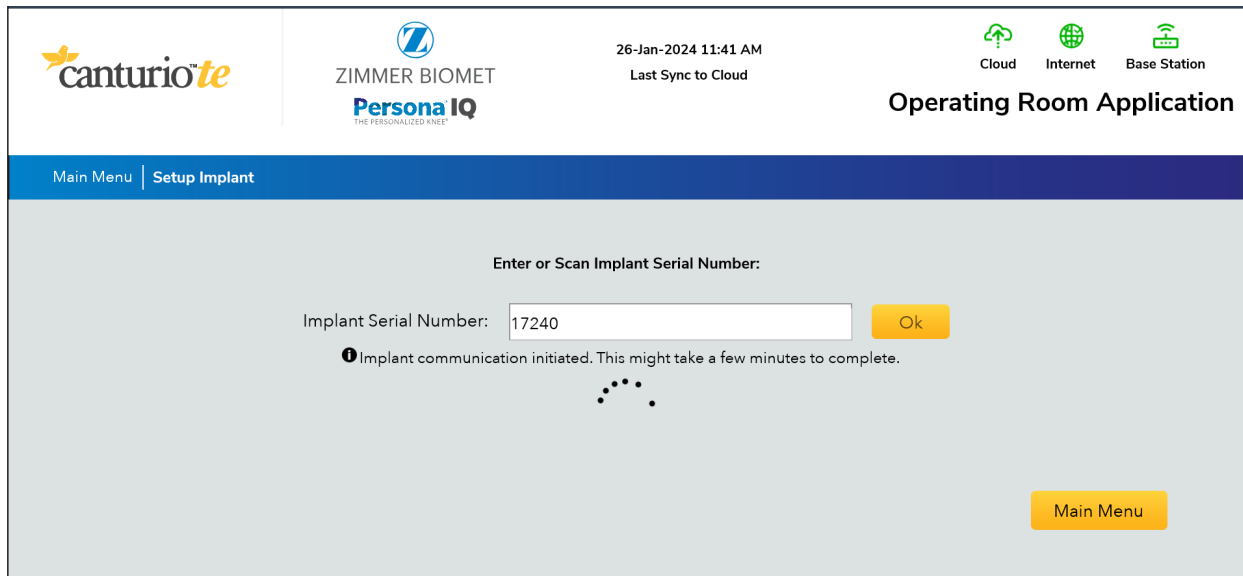

Figure 9: Setup Implant: Communication Initiated
11. The implant initiates communication with the OR Base Station. Click “OK” when this process is finished (**Figure 9**).